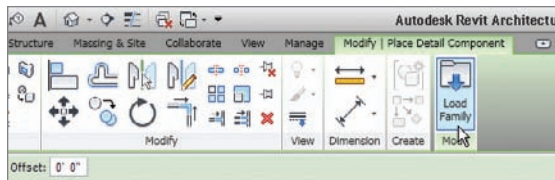

FIGURE 12.4 The Load Family button on the Mode panel of the Modify | Place Detail Component tab
2. On the Detail panel of the Annotate tab, click Component > Detail Component, then click the Load Family button as shown in Figure 12.4.